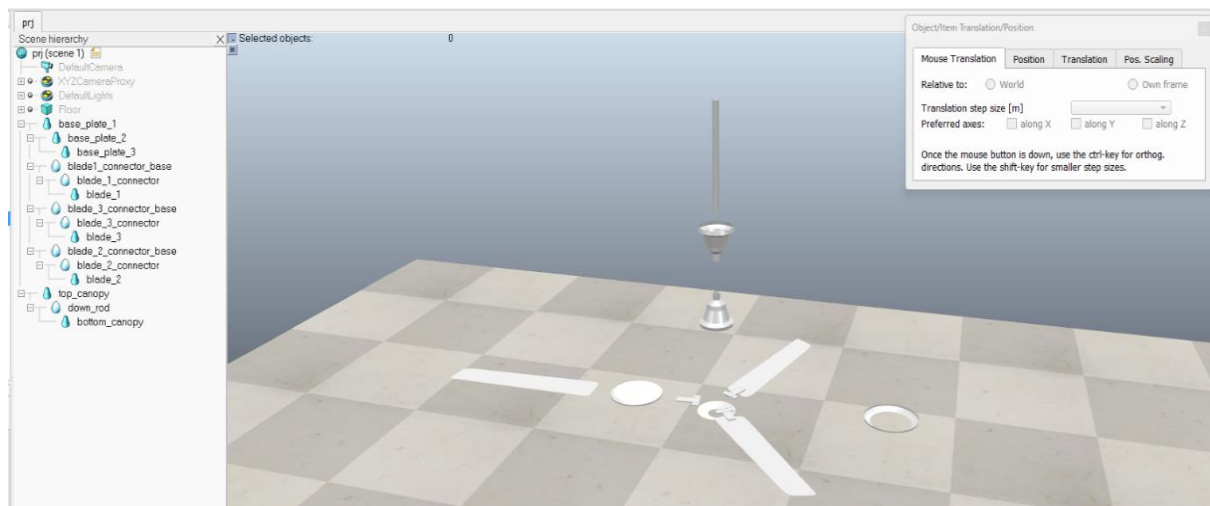

Fig. 3: the parent-child object hierarchy [source: Author’s]
- (9) We can delete some objects which are not most relevant to our Simulation. Select the object and press the “delete” button to delete any object.
- (10) We need to change the reference frame. For that, Right-click on workspace>Edit> Select all. Again, right-click> shape reference frame> **relocate to mesh center**.
- (11) According to the object, drag and maintain the parent-child hierarchy depicted in Figure 3.